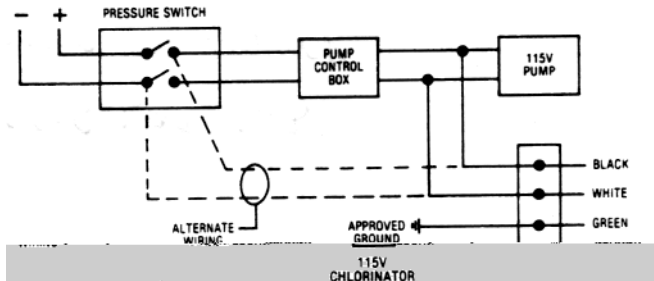

Figure 9 Wiring Diagram, 115 V Chlorinator, 115 V Well Pump
**Note:** Where the pump is controlled by a pressure switch (Figures 9, 10, and 11) a pressure switch with "low pressure cut-off" feature (Square D Model FSG Form M4 or equal) is recommended.